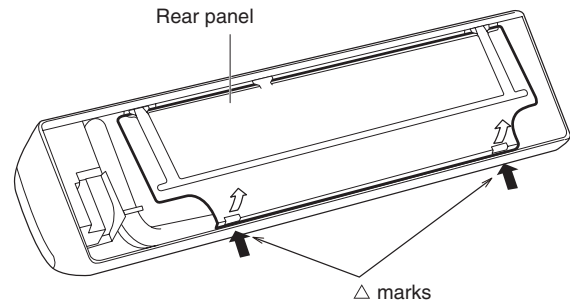

Fig. 1-145
- (2) Press the 2 Δ marks on the frame cover and disengage the stationary tabs from the frame. (Fig. 1-145)